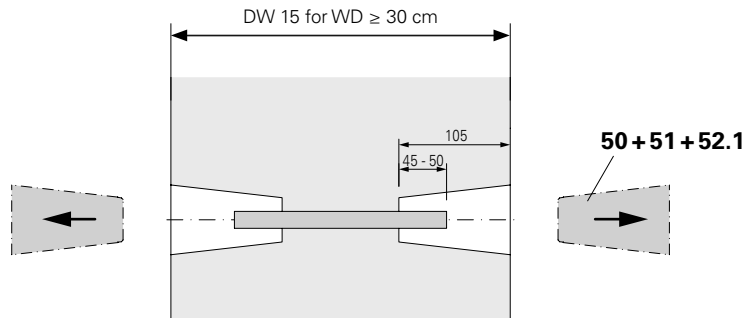
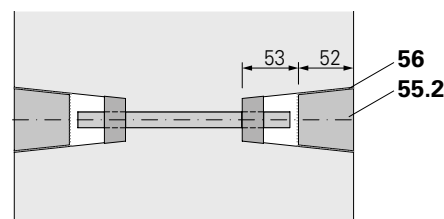

Fig. 11
Fig. 14
1. Remove tie cone (**51**) with DK Cone Spanner (**52.1**). (Fig. 11)
6. Repeat points 1 to 5 on the other side of the wall. (Fig. 11 to Fig. 14)